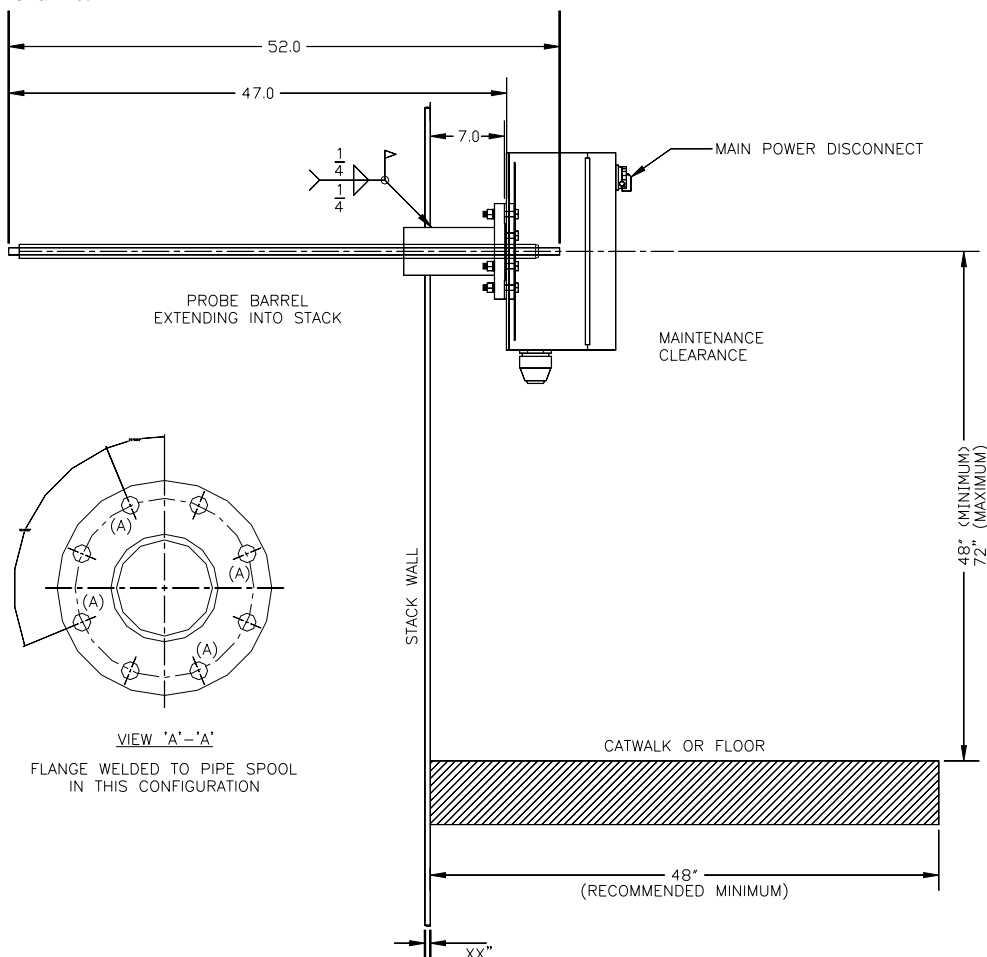

Figure 3.1 Enclosure Mounting Diagram
The dilution probe conditioning assembly is housed in a fiberglass enclosure that measures approximately 18 inches (H), 16 inches (W), 10 inches (D). The enclosure is designed to protect instruments and electrical controls from highly corrosive atmospheres. The PRO2001WHP enclosure is fitted with four (4) stainless steel ½-13 x 3 inch studs to connect to the sampling point (refer to Figure 3.1).
The PRO2001WHP dilution probe conditioning assembly is installed on a four (4) inch pipe flange. The pipe flange must be installed on a pipe nipple extending six (6) inches from the outer wall of the stack. The nipple is used to allow clearance behind the conditioning assembly for installation of nuts on the four (4) 1/2-13 x 3 inch stainless steel mounting bolts. Also allow a clear space, at least the width of the probe enclosure, in front of the enclosure door to allow the door to be opened. The four (4) inch pipe flange must be aligned as shown in Figure 3.1. A slip-type pipe flange is recommended to insure that the conditioning assembly can be leveled.
Install the conditioning assembly on the four (4) inch flange using a proper flange gasket and four ½-13 inch stainless steel nuts (see Figure 3.1).